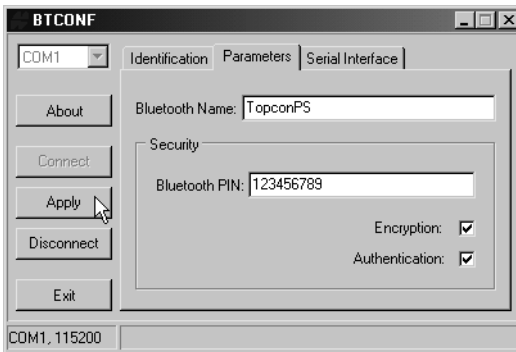

Figure 2-27. BTCONF Security Parameters
7. To set security parameters (Figure 2-27 on page 2-36), enter and enable the following, then click **Apply**: